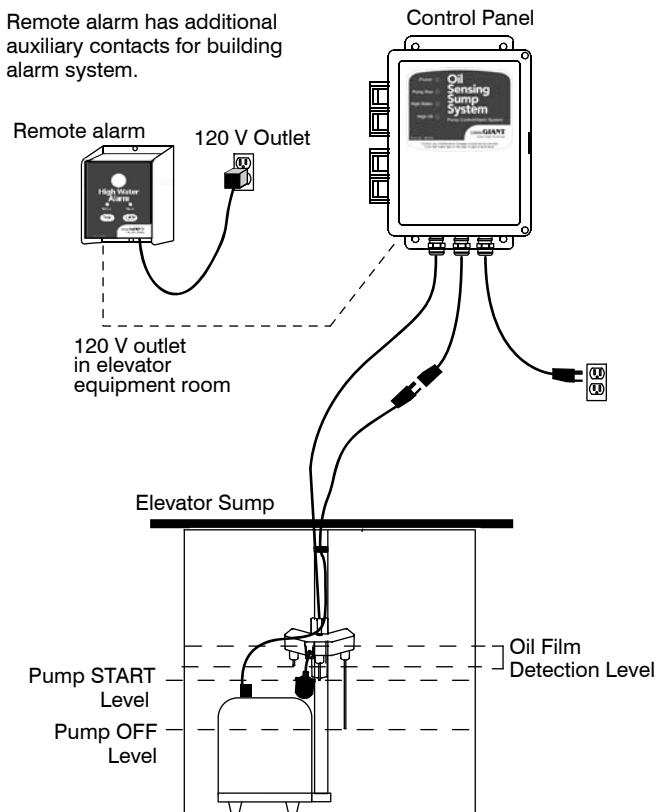

FIGURE 1
1. Choose a mounting location for the control panel (Figure 1), ensuring that it is within 6 feet of an electrical outlet.
POUR UNE POMPE SUBMERGÉE (FIGURE 1) :